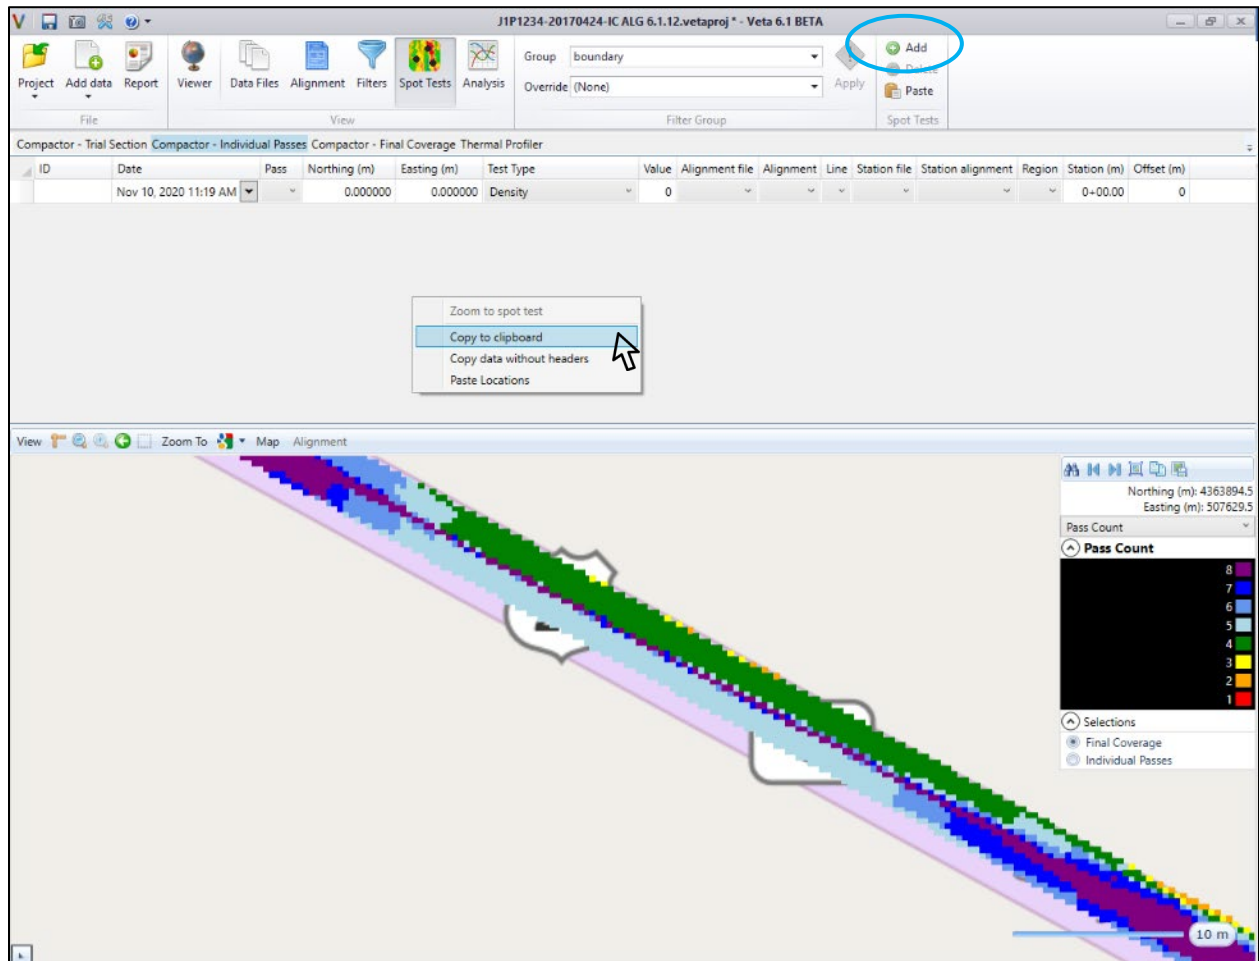

Figure 79. Adding a spot test manually using the add button and copying the data to the clipboard.
Step 1. Use the green button to add a spot test in Veta, as shown in Figure 79. Note that the date is automatically populated.
Step 2. Copy the data to the clipboard by right-clicking inside the spot test box, as illustrated in Figure 79.